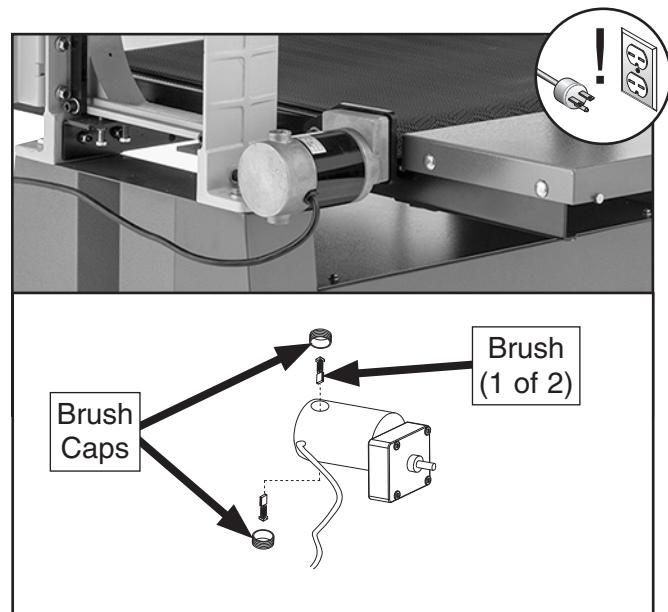

Figure 68. Location of motor cover cap screws.
- Remove brush caps and worn brushes (see **Figure 68**) from conveyor belt motor.